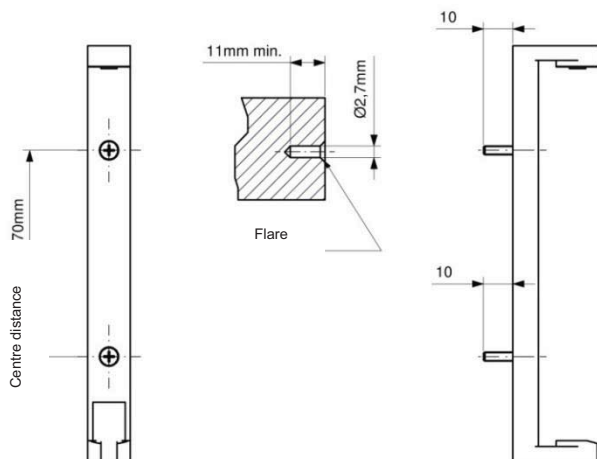

Figure 2: Hole layout
4. A *supporting bracket*, for mounting the display in the cab. The geometrical features are shown in Figure 2.